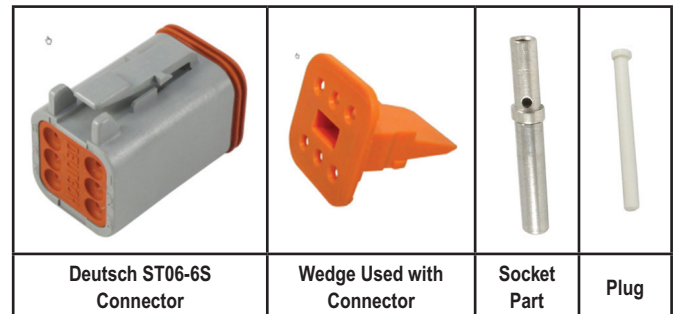

FIGURE 4 - CONNECTOR COMPONENTS
- (b) Crimp the Deutsch socket part [0462-201-16141] on each of the exposed wires. See Figure 4.
8. Insert the Deutsch W6S™ locking wedge into the front of the connector. See Figure 4.